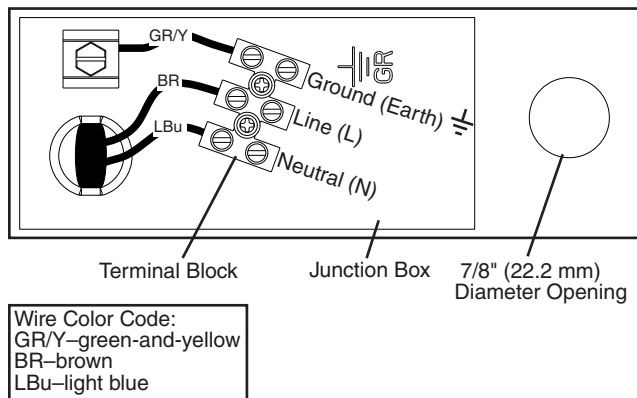

Fig. 7
- The neutral terminal on the terminal block (light blue wire) must be connected to the neutral conductor of the power source. See Fig. 7. **CAUTION! Miswiring may result in severe damage to the icemaker.**